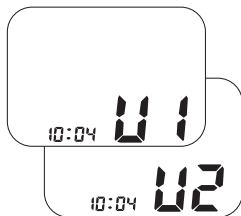
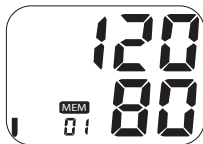

Fig. 1
Fig. 2
1. When the unit is off, press and release the **MEM** button. The display will show the last memory bank used, U1 or U2, and the number of measurements in that bank, Fig 1. Press the **START** button if you wish to select a different memory bank.
4. When the first measurement is on the display (indicated by the 01 at the lower left of the screen), Fig. 1, press and hold the **MEM** button until two horizontal lines flash, Fig. 2. This indicates that all measurements have been erased. Press **START** to turn the unit off.